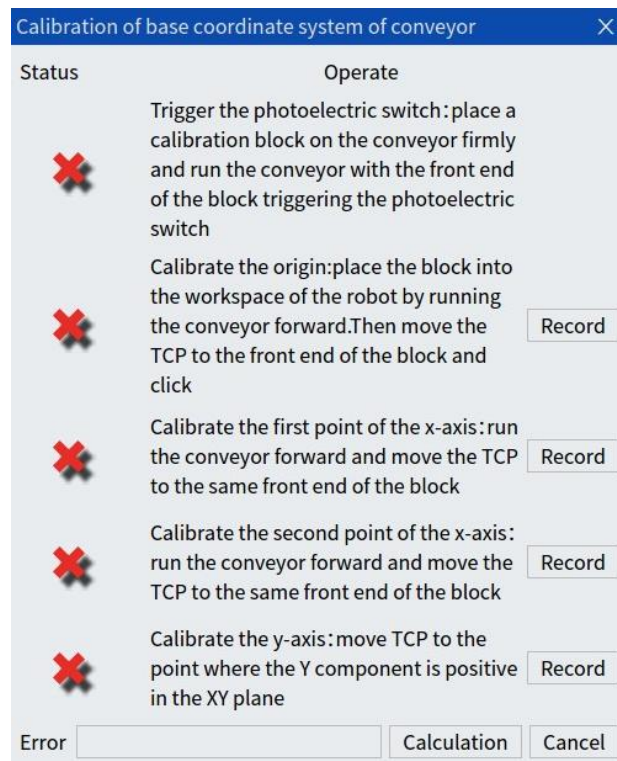

Figure 5-40 Visual coordinate system calibration interface
Step14. Enter the [Cali] interface of the [Conveyor setting] interface again, and click the <Calibrate> button in the [Visual calibration] interface. As shown in Figure 5-40.